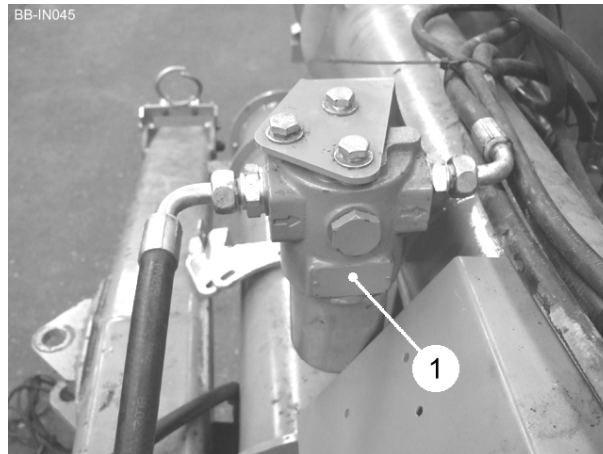

Fig 20
The pressure filter (item 1, figure 20) should be replaced after the first 50 hours running time and then every 500 hours or annually thereafter.